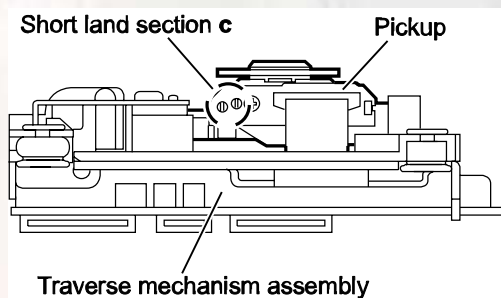

Fig.5
3.2.3 Removing the DVD servo board (See Figs.5 and 6)
- (1) From the side of the traverse mechanism assembly, solder the short land sections **c** on the pickup. (See Fig.5.)
- Solder the short land sections **c** on the pickup before disconnecting the card wire from the connector **CN101** on the DVD servo board. If the card wire is disconnected without attaching solder, the pickup may be destroyed by static electricity. (See Figs.5 and 6.)
- When attaching the DVD servo board, be sure to remove solders from the short land sections **c** after connecting the card wire to the connector **CN101** on the DVD servo board. (See Figs.5 and 6.)
3.2.4 Removing the pickup (See Figs.5,7 to 9)
- Solder the short land sections **c** on the pickup before disconnecting the card wire from the connector on the pickup. If the card wire is disconnected without attaching solder, the pickup may be destroyed by static electricity. (See Figs.5 and 7.)
- When attaching the pickup, be sure to remove solders from the short land sections **c** after connecting the card wire to the connector on the pickup. (See Figs.5 and 7.)
3.2.5 Attaching the pickup (See Figs.5,7 to 10)
- (4) Remove solders from the short land sections **c** after connecting the card wire to the connector on the pickup. (See Figs.5 and 7.)